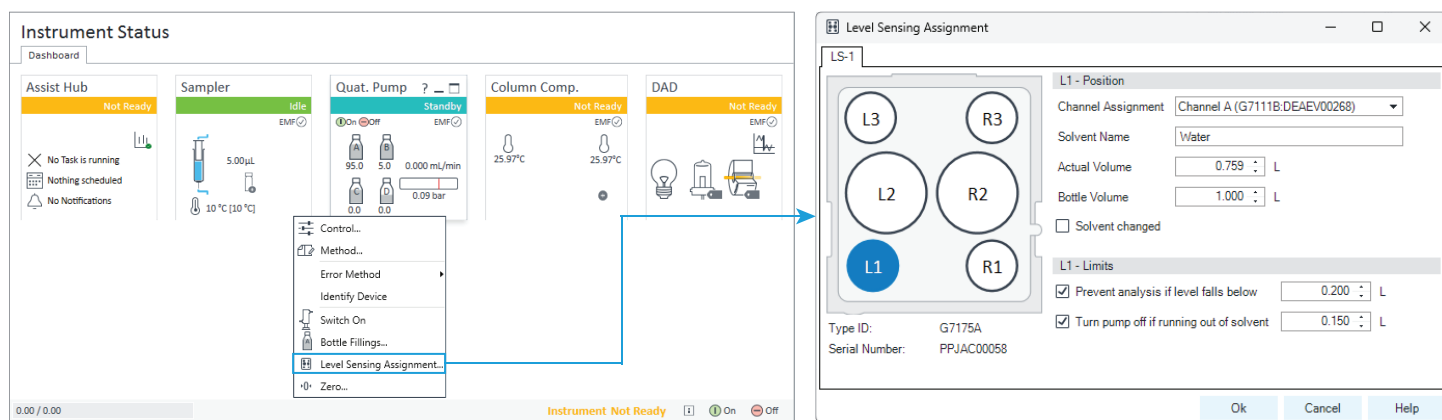

Figure 3. Level Sensing assignment.
**Level Sensing assignment:** The filled solvent bottle is placed on the bottle position and level sensing assignment is performed (see Figure 3). During level sensing assignment, for every used bottle position, the user needs to specify the connected channel (e.g. pump channel A), the bottle volume, and the actual solvent volume contained in the bottle. Furthermore, the solvent name can be entered for information purposes.